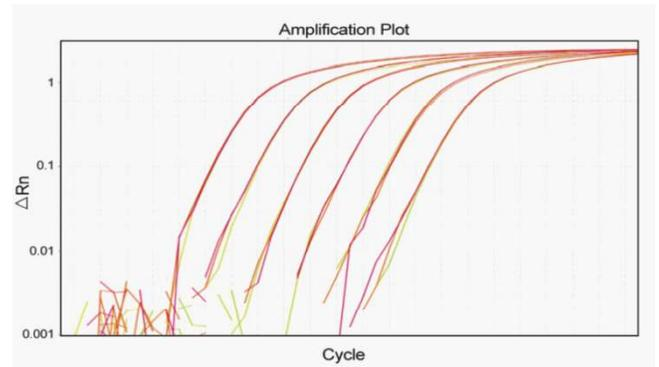

Figure 1: Amplification curve
4) **Determination of baseline and threshold:** please refer to the real-time PCR system software used to calculate baseline and threshold values for a detector or manually set it up according amplification curves (Fig 1).